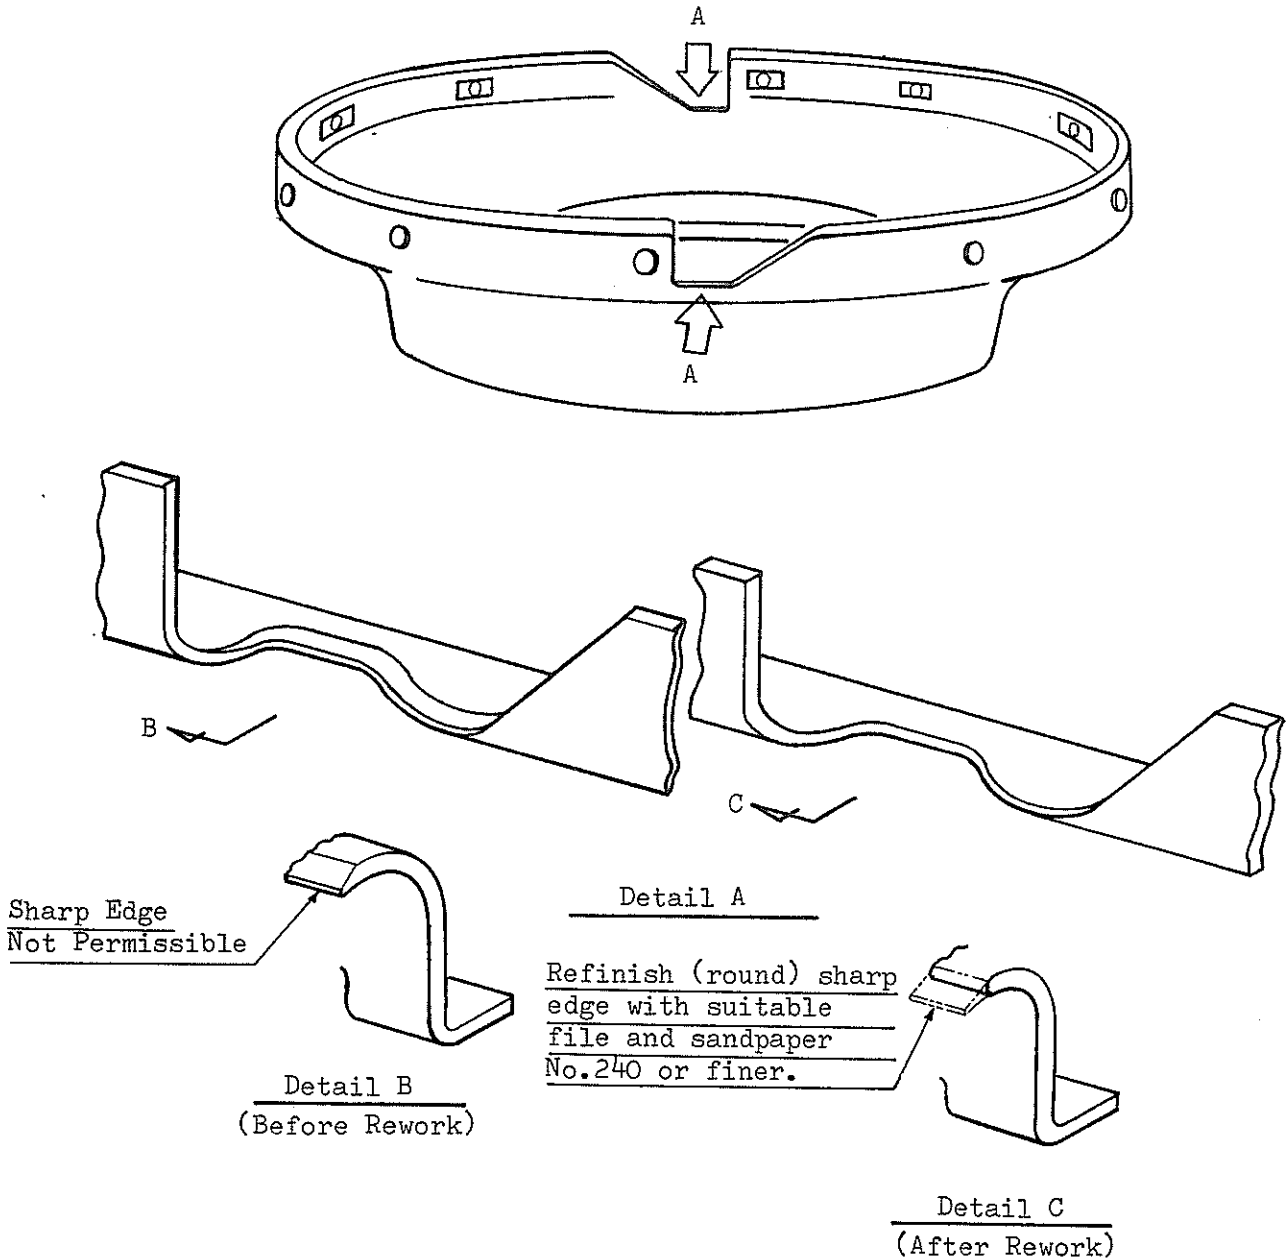

Figure 1. Details for Bulkhead Rework
- (1) If any crack is found, replace with a new serviceable part. Prior to installation, ensure that the edges of cutouts are reworked as shown in figure 1.
- (2) If no cracks or damage is noted, rework the bulkhead as illustrated in figure 1, and then install it in place.
- (1) Remove upper and lower cowlings.
- (2) Remove ten screws attaching spinner and remove spinner.
- (3) Remove six bolts attaching propeller and remove propeller.
- (4) Remove twelve bolts attaching spinner bulkhead and remove spinner bulkhead.
- (5) After stripping paint from bulkhead with paint remover, clean surfaces with naphtha or equivalent solvent.
- (6) Visually inspect bulkhead for evidence of crack.
- (7) Dye penetrant inspect bulkhead cutout area for cracks. (Reference figure 1, areas A.)
- (8) If no cracks or damage is found, accomplish the following rework :
- (a) Using a suitable file and sandpaper No. 240 or finer, refinish cutout areas as illustrated in figure 1, detail C. Use extreme care to remove material minimum required and form round edges. Sharp edge as shown in figure 1, detail B, is not permissible.
- (9) In the event that any damage or dye penetrant indication is found, replace bulkhead with a new serviceable part. Prior to installation, ensure that cutout edges are finished as shown in figure 1, detail C.